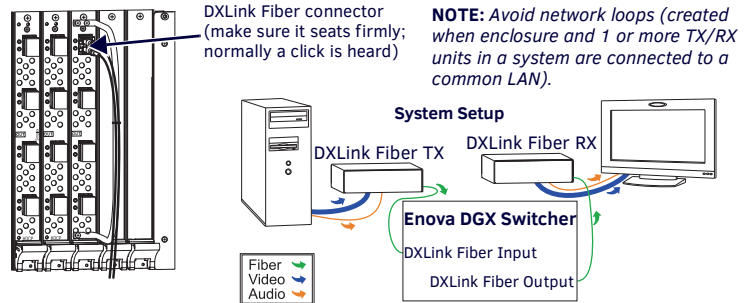

FIG. 2 DXLINK FIBER CABLE ATTACHED TO INPUT; SYSTEM SETUP WITH DXLINK FIBER
2. Provided/recommended for DXLink Fiber Boards – Install cable management bars: Fasten bar with two screws on one end of board and one screw at the other (FIG. 2) (the long part of the bar is to right of holes); do not over tighten. **DGX 3200 only** – Remove number plate at rear top; replace when done.
**NOTE:** System setup for DXLink Twisted Pair Boards is similar to FIG. 2 right, except with DXLink Twisted Pair TXs and RXs installed between the DXLink Boards and the source and destination devices.
**Recommended** – Fasten cable management bars with 2 screws on one end of board and 1 screw at other (long part of bar is to right of holes); do not over tighten (FIG. 2 left).